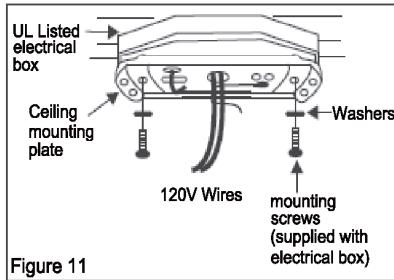

Figure 11
1. Pass the 120-volt supply wires through the center hole in the ceiling mounting plate as shown in Fig.11.
2. Install the ceiling mounting plate on the electrical box by using the mounting screws provided with the electrical box. When using the close-to-ceiling mounting, it is important that the mounting plate be level. If necessary, use leveling washers (not supplied) between the mounting plate and electrical box. Note that the flat side of the mounting plate is toward the electrical box. (Fig.11)